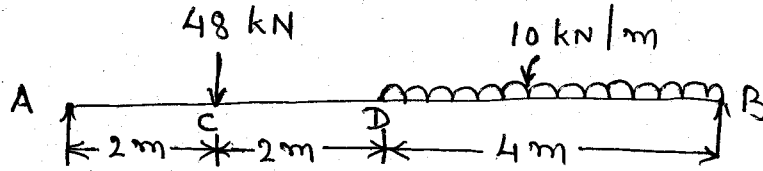

Fig.1
- 3 For the simply supported beam shown in figure 1. Find 18